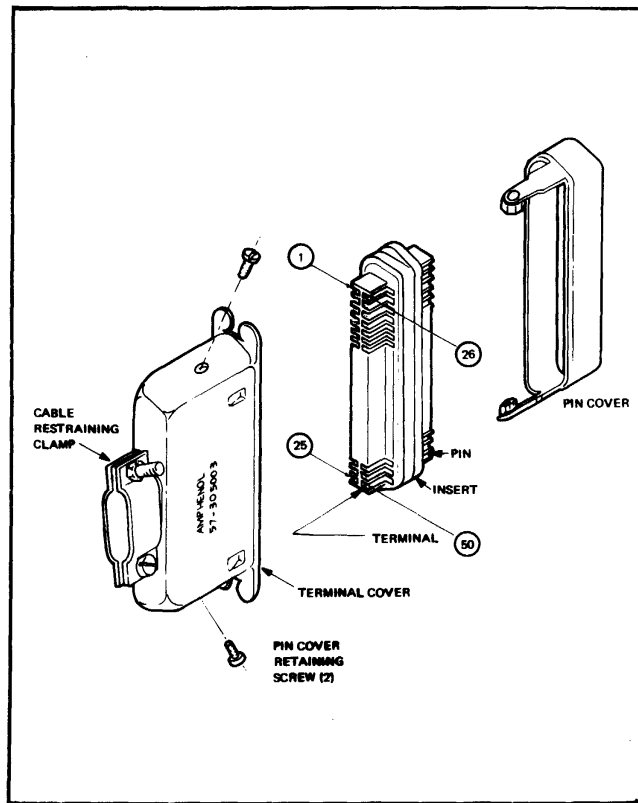

Figure 6-1. MALE PROGRAMMING CONNECTOR
- d. Solder the wiring to the appropriate terminals of the numbered insert. Refer to Figure 6-1 for terminal locations. Use pin cover to support insert during soldering.